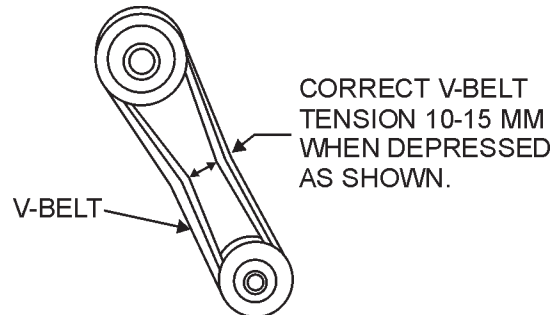

**Figure 19. Engine Air Filter**
1. Remove the air cleaner cover and foam filter element as shown in Figure 19.
2. Tap the paperfilter element (Figure 19) several times on a hard surface to remove dirt, or blow compressed air [not exceeding 30psi (207 kPa, 2.1 kgf/cm2)] through the filter element from the air cleaner case side.